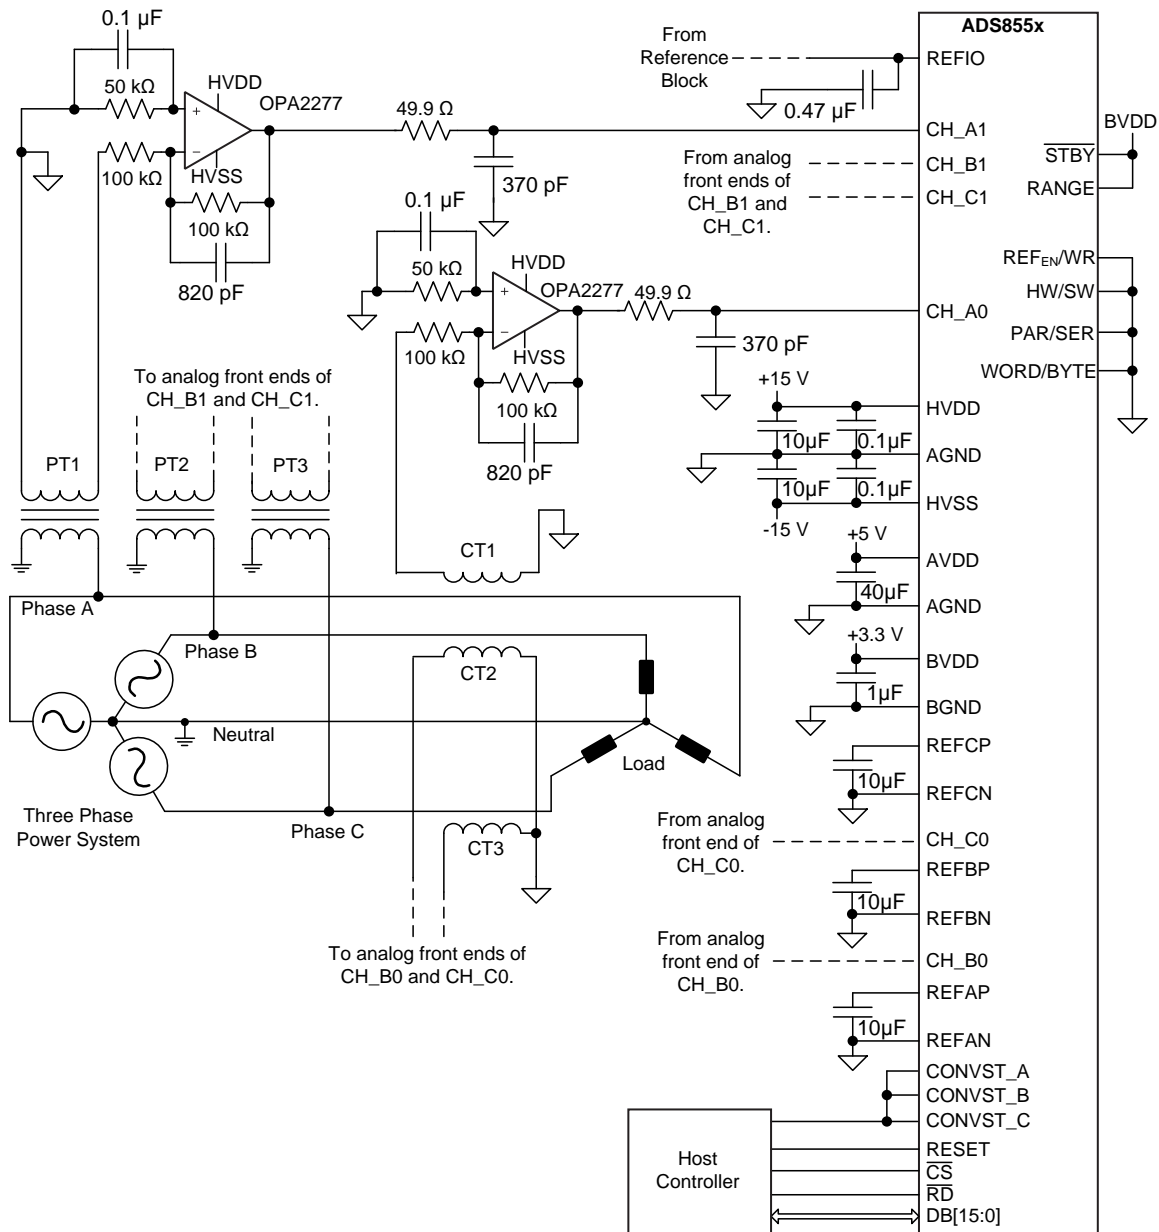

Figure 43. Simultaneous Acquisition of Voltage and Current in a 3-Phase Power System
This section describes the measurement of electrical variables in a 3-phase power system. The accurate measurement of electrical variables in a power grid is extremely critical because this measurement helps determine the operating status and running quality of the grid. Such accurate measurements also help diagnose problems with the power network, thereby enabling prompt solutions and minimizing down time. The key electrical variables measured in 3-phase power systems are the three line voltages and the three line currents; see Figure 43. These variables enable metrology and power automation systems to determine the amplitude, frequency, and phase information to perform harmonic analysis, power factor calculation, power quality assessment, and so forth.
- Output range of the potential transformers (elements labeled PT1, PT2, and PT3 in Figure 43)
- Output range of the current transformers (elements labeled CT1, CT2, and CT3 in Figure 43)
The potential transformers (PTs) and current transformers (CTs) used in the system depicted in Figure 43 provide the six input variables required. These transformers have a  $\pm 10$ -V output range. Although the PTs and CTs provide isolation from the power system, the value of  $R_{IN}$  is selected as 100 k $\Omega$  to provide an additional, high-impedance safety element to the input of the ADC. Moreover, selecting a low-frequency gain of  $-1$  V/V (as shown in Equation 5) provides a  $\pm 10$ -V output that can be fed into the ADS8556 device; therefore, the value of  $R_F$  is selected as 100 k $\Omega$ .
The primary goal of the acquisition system depicted in Figure 43 is to measure up to 20 harmonics in a 60-Hz power network. Thus, the analog front-end must have sufficient bandwidth to detect signals up to 1260 Hz, as shown in Equation 6.